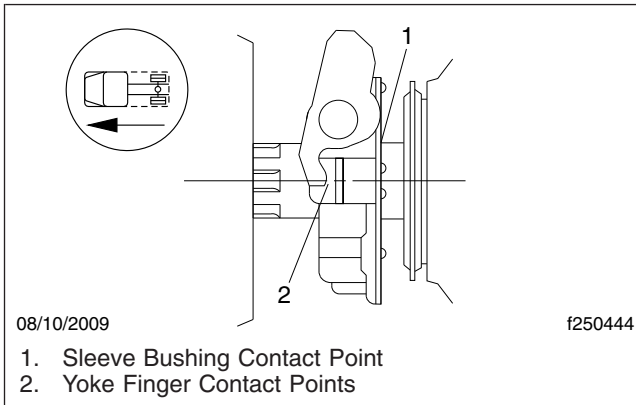

Fig. 3, Grease the Contact Points
4. Wipe off excess grease and apply to both the yoke finger and sleeve bushing contact points. See Fig. 3.
See **Fig. 3**.